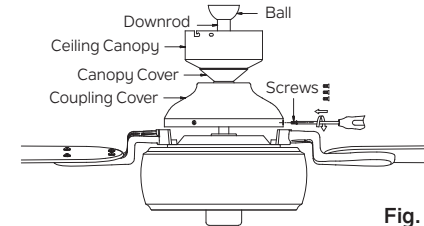

Fig. 12
Step 10. Tighten three set screws on coupling cover firmly (Fig. 12)